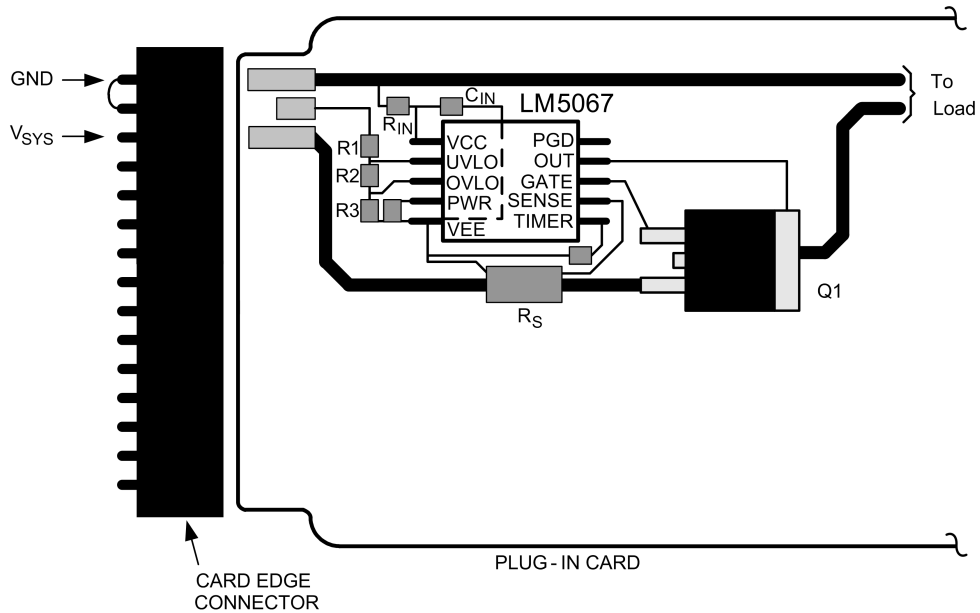

FIGURE 17. Suggested Board Connector Design
- The board's edge connector can be designed to shut off the LM5067 as the board is removed, before the supply voltage is disconnected from the LM5067. In Figure 17 the voltage at the UVLO/EN pin goes to VEE before  $V_{SYS}$  is removed from the LM5067 due to the shorter edge connector pin. When the board is inserted into the edge connector, the system voltage is applied to the LM5067's VEE and VCC pins before voltage is applied to the UVLO/EN pin.